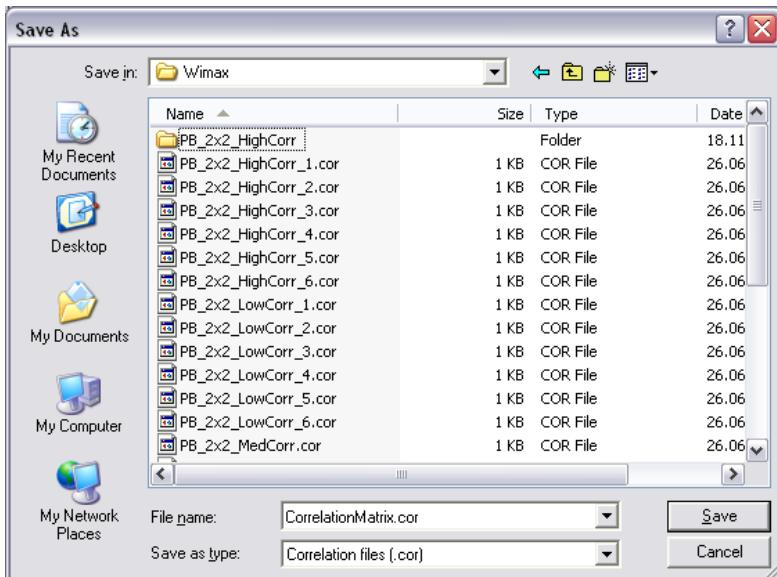

Figure 198 Saving the MIMO matrices
- f. Click **Save As** to save all the matrices, as shown in Figure 198. The correlation matrices are stored as COR files. This file format is identified by the .cor suffix in the file name.